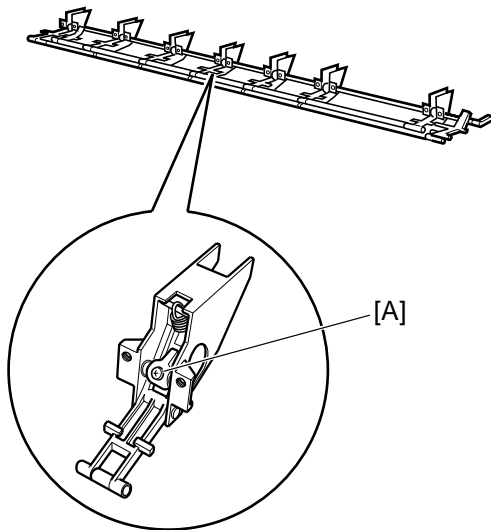

Figure 3-403
- Install the pinch roller unit with the screws [A] of the pinch roller facing upward (See Figure 3-403).